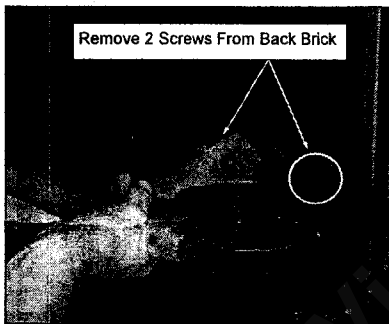

Figure 5
6. Remove 2 screws from the back brick. If having difficulty removing the back brick, remove the 2 firepot bolts for extra clearance. **Figure 5.**